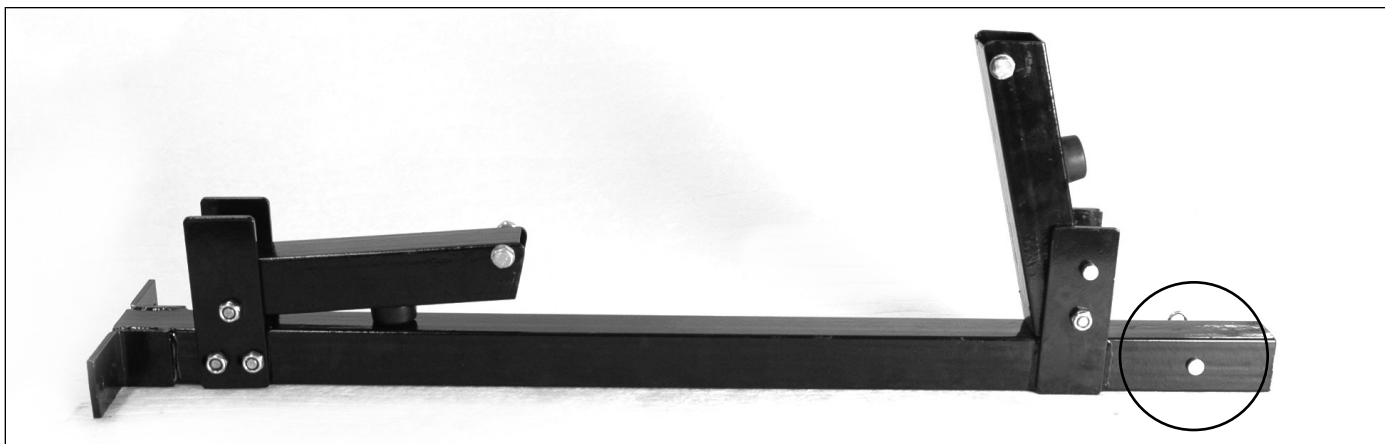

Figure 1
1. Remove locking pin from outer telescopic tongue axle assembly. Lock front upright in the up position with locking pin already installed in upright. **SEE FIGURE 1.**